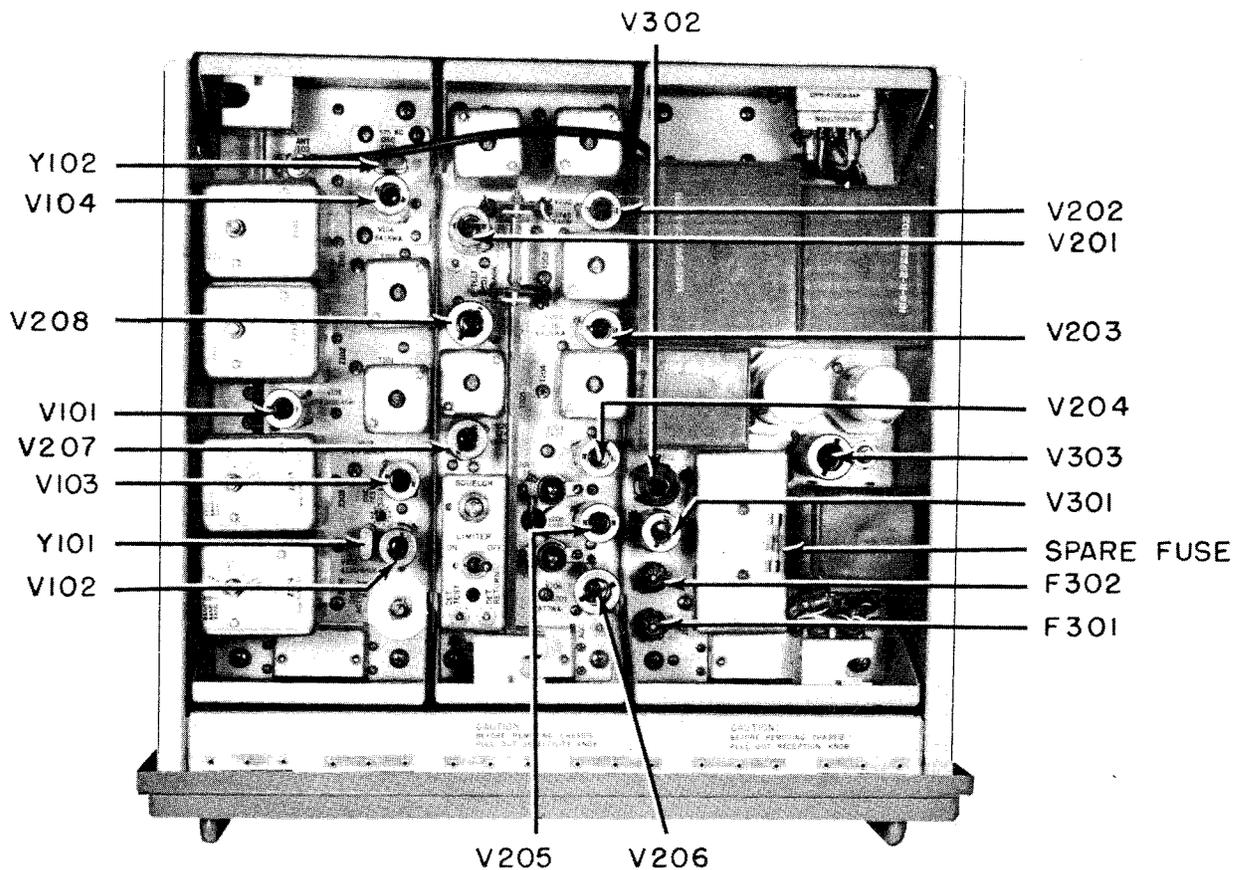

Figure 5-1. Top View of the Unit out of the Case Showing Crystals, Fuses and Tubes
*b. FUSE INFORMATION.*—Two 1-ampere, type 3AG, slow-blow glass cartridge fuses located on the top of the Audio/Power Supply sub-chassis as indicated in figure 5-1, are the only fuses used in Radio Receiver AN/FRR-26. These fuses protect the 105, 115, 125 volt, 50-60 cycle primary circuit. Access to the fuses is obtained by unscrewing the four fasteners in the corners of the front panel, and pulling the entire unit out of the case until the side latches prevent further movement. The fuses are removed by pushing down on the fuse holder head, then twisting it approximately one-quarter turn in a counterclockwise direction. The fuse holder head, with the fuse attached may now be lifted up. Condition of the fuse may be determined by observing through the glass casing whether the fuse link has been broken or melted. Always replace a bad fuse with one of exactly the same rating and type and, before replacing, check the cables and the set visually to make certain that no obvious faults exist. The description of the fuses is given in table 8-2 under F301.
A spare fuse is mounted in a clip next to the audio output transformer on the Audio/Power Supply sub-chassis, as indicated in figure 5-1. Additional spare fuses should be kept at hand for replacement use. If the fuse F301 and/or F302 blow following a replacement, check wiring and connections for obvious shorts. If no shorts are apparent, further servicing must be entrusted to qualified maintenance personnel.
c. ELECTRON TUBE INFORMATION.—The full complement of electron tubes used in the AN/FRR-26 is given in table 1-4. These tubes are all located on the three chassis assembly units as indicated in figure 5-1.
*a. TUBE DATA.*—The full complement of electron tubes used in Radio Receiver AN/FRR-26 is given in table 1-4. These tubes are all located on either the RF, IF, or Audio/Power Supply chassis assemblies of the receiver. Their locations on these individual chassis are shown in figure 5-1.